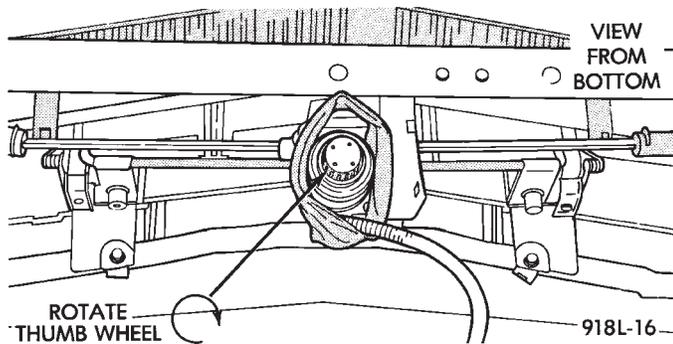

Fig. 14 Headlamp Motor—Bottom View
- (6) Spring tension must be relieved from the headlamp doors before removing headlamp motor torsion bar clips. Locate the thumb wheel on bottom of headlamp motor (Fig. 14). Rotate thumb wheel approximately six to seven turns clockwise to relieve all tension.
- (3) Spring tension must be relieved from headlamp doors before removing the headlamp motor torsion bar clips. Locate the thumb wheel on bottom of the headlamp motor (Fig. 14). Rotate thumb wheel approximately six to seven turns (clockwise) to relieve all tension.